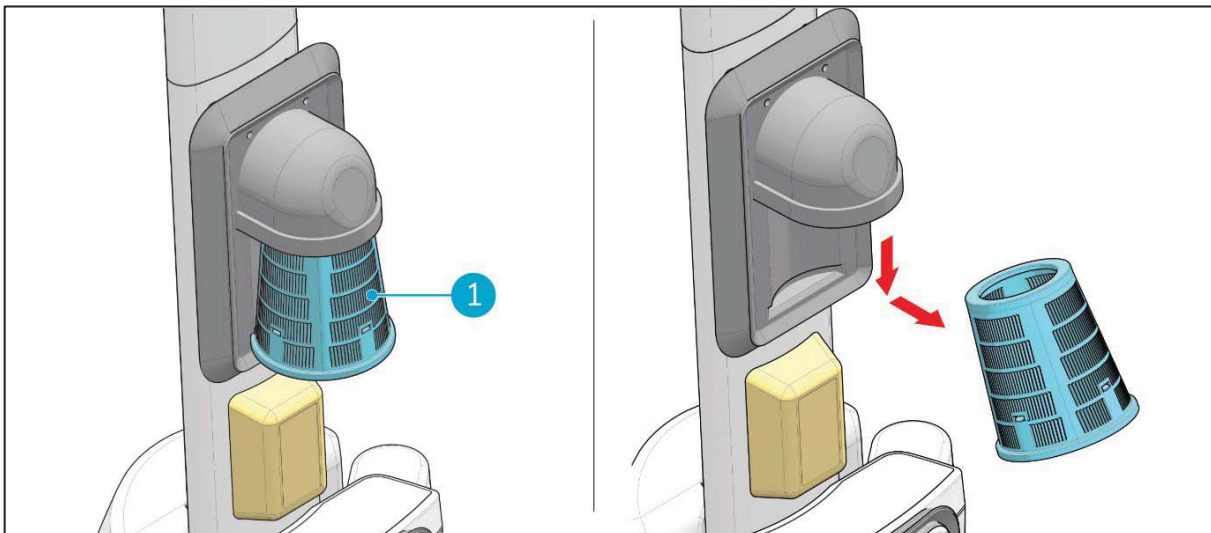

Figure 22
3. Release the blue suction filter (Figure 22, pos 1) from beneath the rubber holder by tilting it slightly and pulling it out.